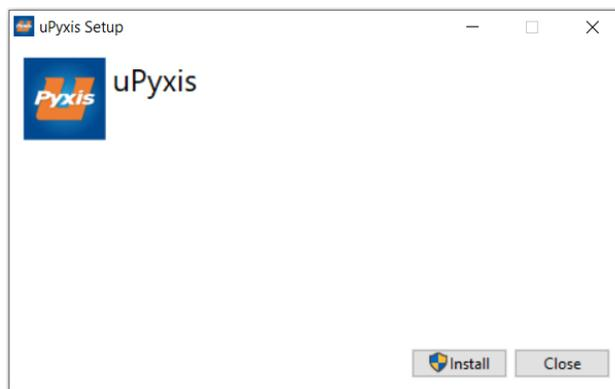

Figure 10. uPyxis® Desktop App installation
3. On uPyxis® Desktop App, click Device → **Connect via USB-Bluetooth** (Figure 10).
4. If the connection is successful, the ST-711SS and its Serial Number (SN) will be displayed in the left pane of the uPyxis® window.